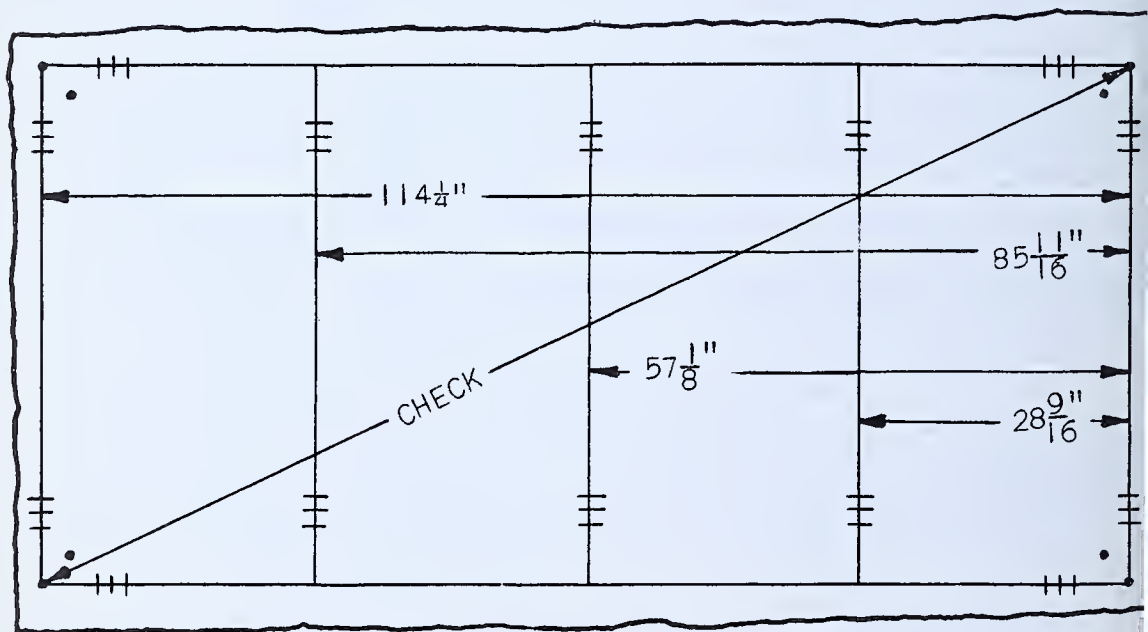

FIG. 265 — *Plate Layout for Cylinder*
11. How is a plate layout checked to find if it is square? See Fig. 265.
3. Lay out center lines (Fig. 265) to represent distances of one quarter and three quarters of the cylinder circumference.
6. Center-punch-mark the center lines and the corners of the layout as shown in Fig. 265.